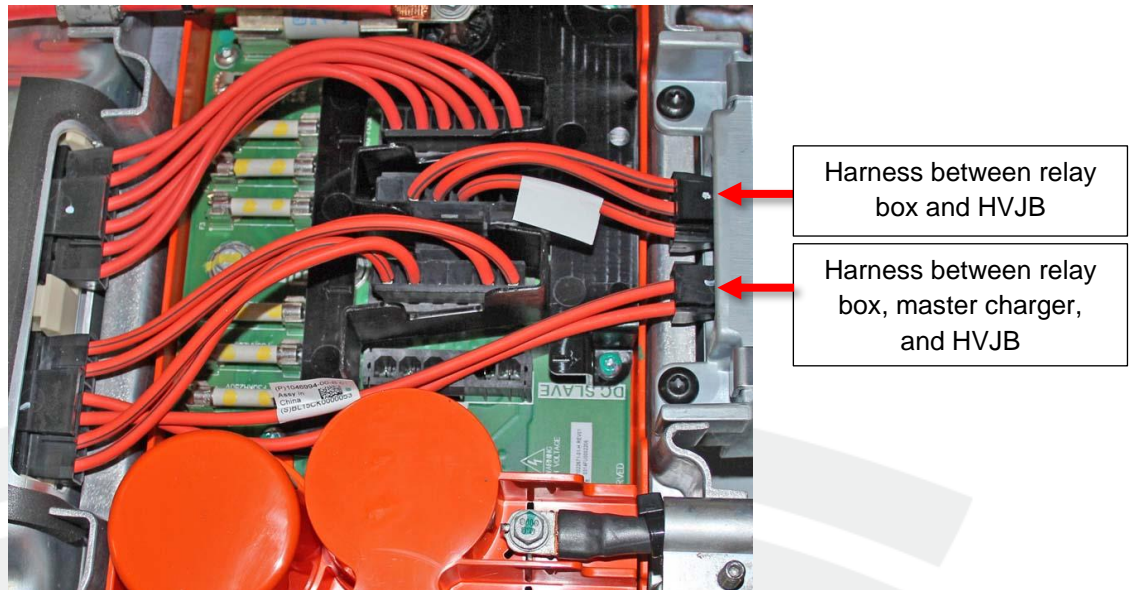

Figure 7
10. Install the relay box harnesses inside the HVJB as shown (Figure 7).